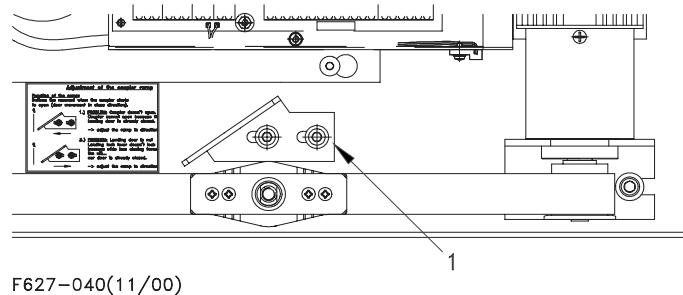

Figure 48 Adjust Coupler Ramp
The coupler ramp (1) determines when the coupler latch (2) starts to open as the car door is closing. See Figures 48 and 49.